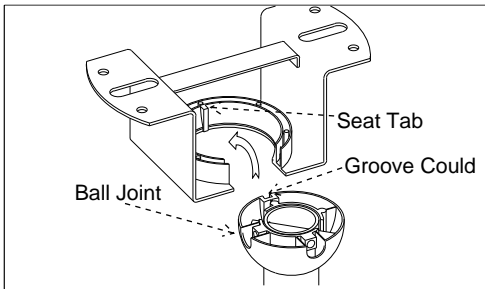

Fig. 7
Step 2. As shown in Fig. 7, hang the ball joint and the fan onto the bracket, make sure the guide pin of the bracket is fitted into slot of ball joint.